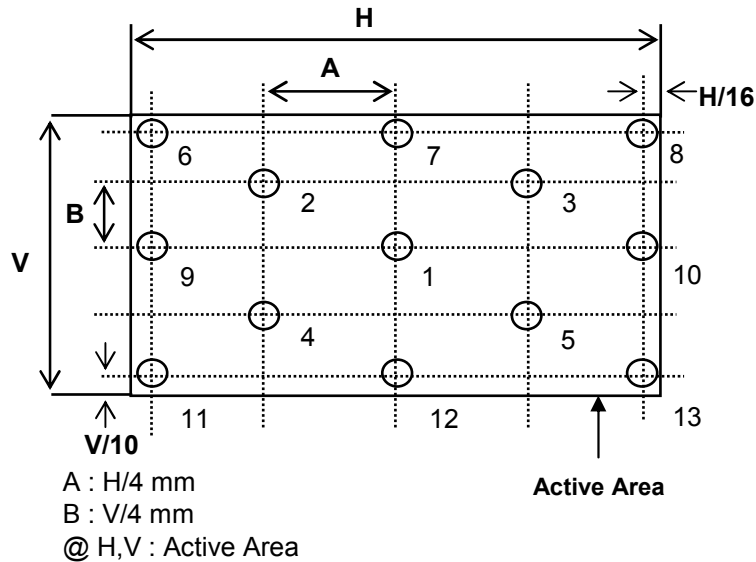

FIG. 2 Measure Point for Luminance
2. Surface luminance(L_{WH}) is luminance value at 5 points average across the LCD surface 50cm from the surface with all pixels displaying white. For more information see FIG 2.
For more information see FIG 2.